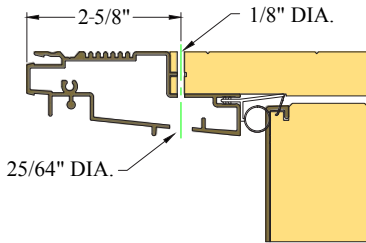

FIG. 15
- D) Measure in from the exterior side of the unit 2-5/8" and mark this at four equally spaced points along each side jamb and three equally spaced points along the head jamb. Then drill a 1/8" pilot hole through the entire unit at each of the 11 marked places. (Fig. 15)
- E) After the pilot hole has been created, drill a 25/64" hole through the aluminum cladding only. (Fig. 15)